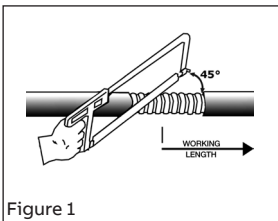

Figure 1
- Determine the working length (the length of conductors required inside the enclosure or device). Remove a portion of the outer jacket to expose the armor, cut armor using a hacksaw (Figure 1). CAUTION: Do not nick or cut the conductor insulation.